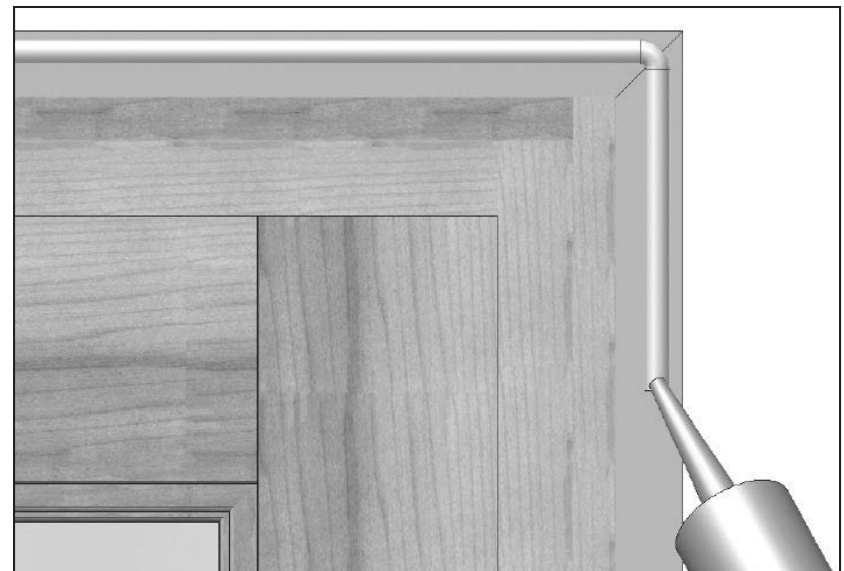

FIG. 9
- D) Apply sealant on the backside of the head and side brickmould. Apply a 1/4" continuous bead of silicone along the entire length a 1/4" from the outside edge of the brickmould. (Fig. 9)
- Apply three 1/4" continuous beads of silicone across the entire width of the rough opening. Note that the locations are different for each door type. Figure 10 shows the silicone location for a 4-9/16" and 6-9/16" in-swing door. The bead location will be different for other jamb sizes. (Fig. 9, 10 & 11)